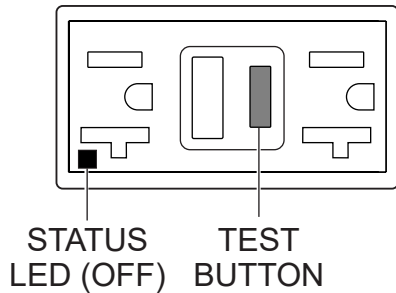

Figure 77. GFCI Receptacle (OFF)
4. Press the **TEST button** (Figure 77) on the GFCI receptacle and verify that the status LED turns **OFF**.